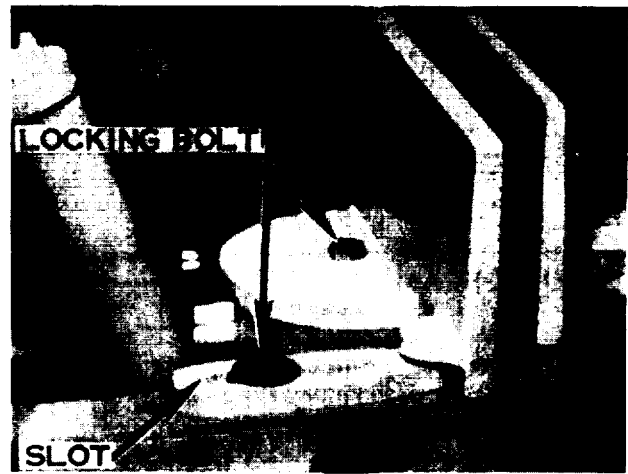
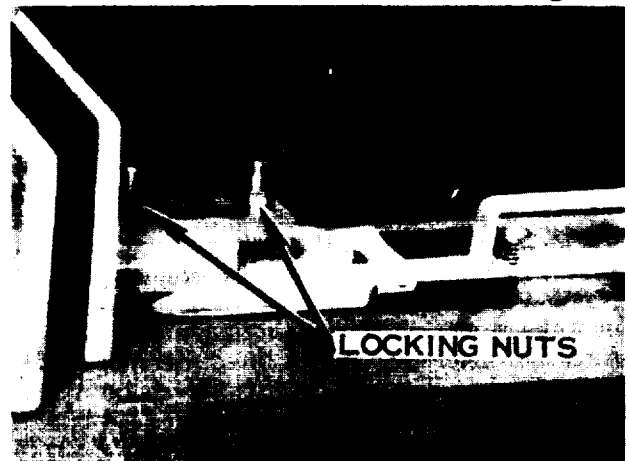

Figure 10
Figure 11
H. ANGLE CUTTING. To make cuts of various angles from 90 to 45 degrees, loosen the two bolts holding the stationary vise jaw to the saw bed. Use a protractor to position the vise jaw on the bed to the desired angle. As the angle becomes more acute, it may be necessary to remove the bolt from the slot in the vise jaw (Fig. 10). This bolt may then be placed in either of the other holes in order to obtain the desired angle. Tighten the bolts securely when the angle is set. Next, loosen the two bolts on the movable vise jaw (Fig. 11), slide it snugly up against the adjusted stationary jaw, and retighten the bolts. Be sure to check the guide arms before making a cut to be sure they are as close as practical, but with the necessary clearance.